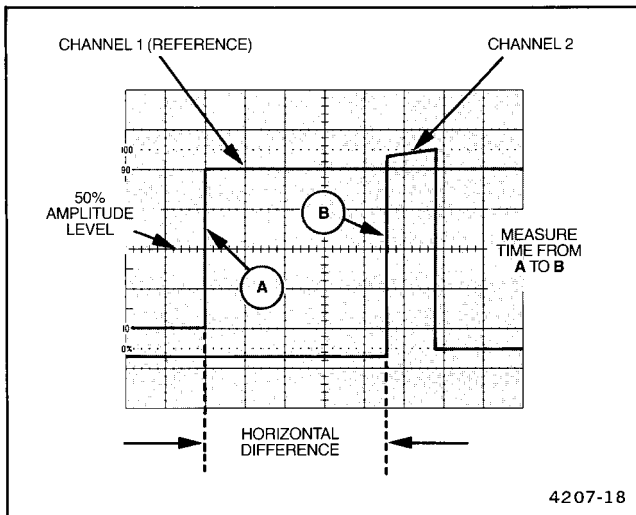

Figure 3-7. Time difference between pulses on time-related signals.
8. Set the SEC/DIV switch to a sweep speed that provides three or more divisions of horizontal separation between measurement points on the two displays. Center each of the displays vertically (see Figure 3-7).
EXAMPLE. In Figure 3-7, the SEC/DIV switch is set to 50 μs per division, HORIZONTAL MODE is set to MAG, and the MAG switch is set to X10. The horizontal difference between waveform measurement points is 4.5 divisions.